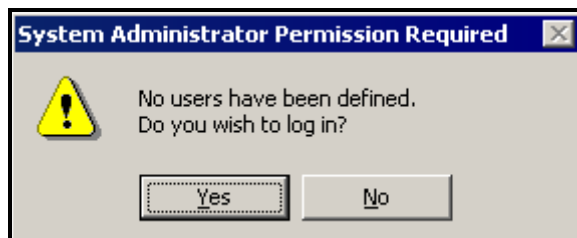

Figure 2-2: Default Kaye Account Box
4. Enter your company name, and click OK. A control box, similar to Figure 2-2 below, opens. Click Yes.